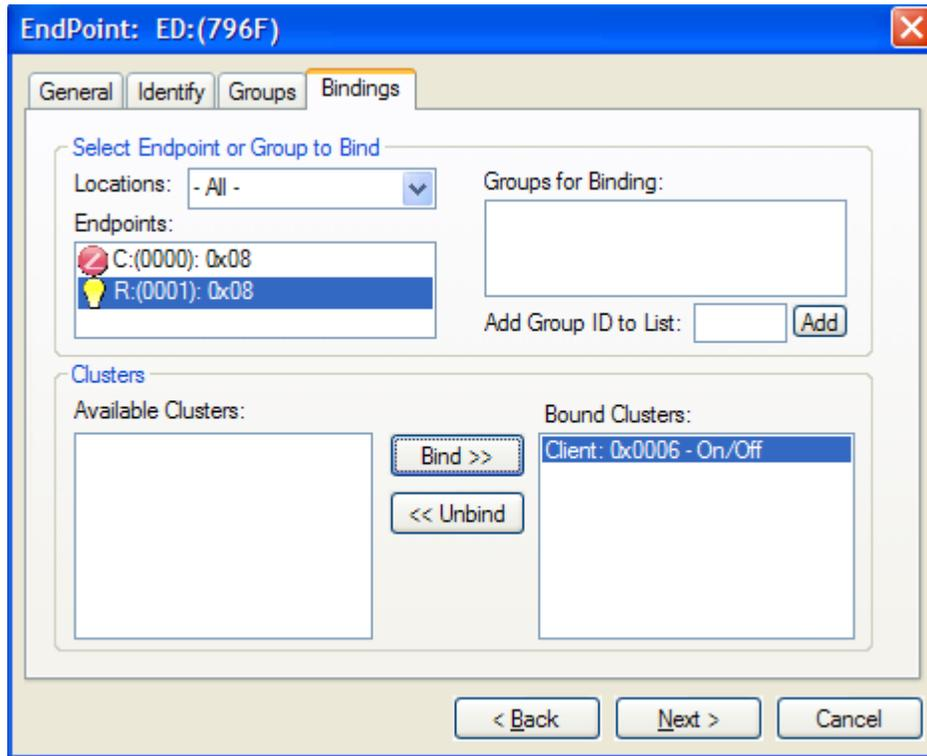

Figure 4-14. Binding Window Showing the On/Off Cluster as Bound
2. Click on the Bindings tab. The Window is shown in figure Figure 4-14.